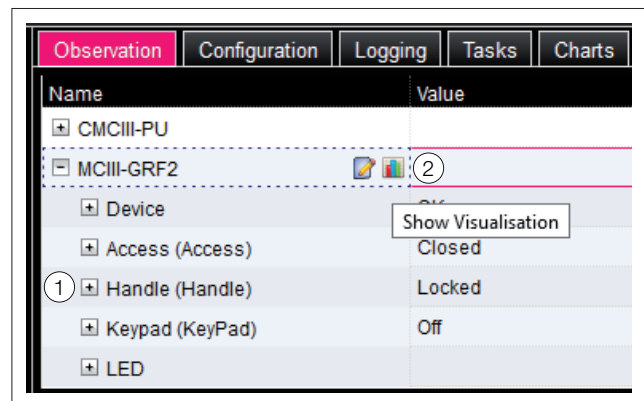

Fig. 14: Tree display
When the lower-level "Device", "General", etc. entries are displayed (Fig. 14, item 1) after selecting the "CMCIII-GRF2" level, switch to the graphical display as follows:
- Click the coloured "graphic" symbol behind the "CMCIII-GRF2" entry that resembles a stylised diagram (Fig. 14, item 2).
The display changes to the tree display (Fig. 14) and you can now access the specific setting values.